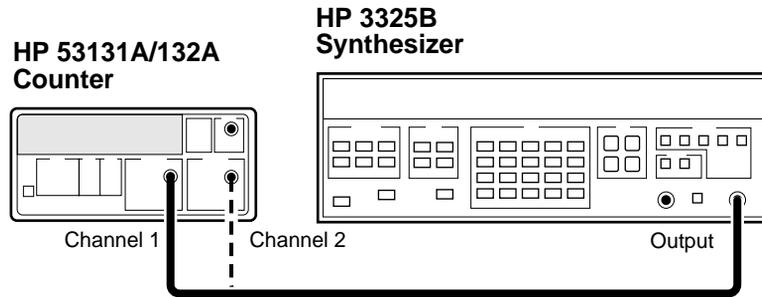

Figure 1-6. Trigger Level Test Setup
- 1 **Connect the output of the HP 3325B to Channel 1 of the Counter as shown in Figure 1-6.**